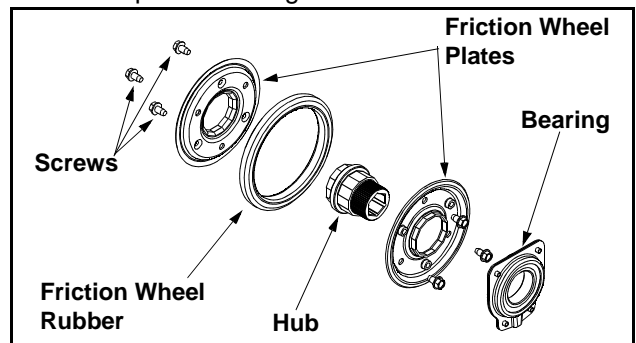

Figure 25
8. Remove the six screws from the friction wheel assembly (three from each side). Remove the friction wheel rubber from between the friction wheel plate. See Figure 25.